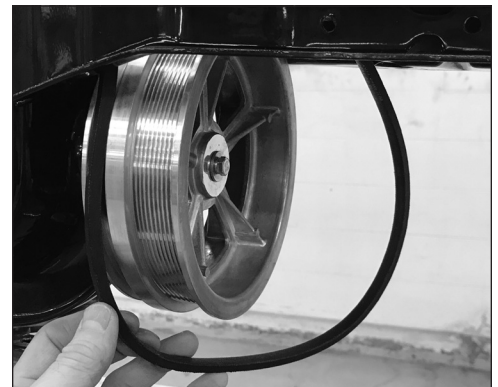

Figure 11
9. Remove reverse belt from transmission pulley. SEE FIGURE 11
1. Place reverse belt around transmission pulley in reverse groove. SEE FIGURE 11